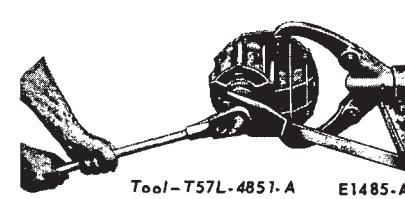

FIG. 21—Removing Pinion Shaft Nut
1. Turn the carrier assembly upright and remove the pinion shaft nut (Fig. 21 and 22).